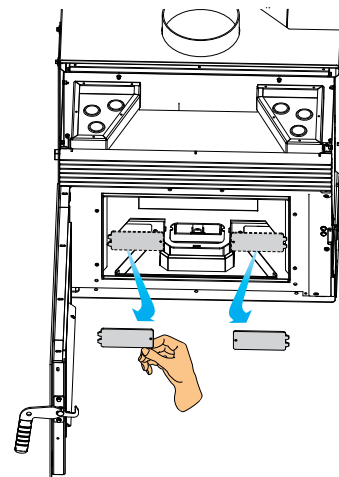

fig. 7.18
- E) Remove the stoppers of the smoke collector (fig. 7.18)